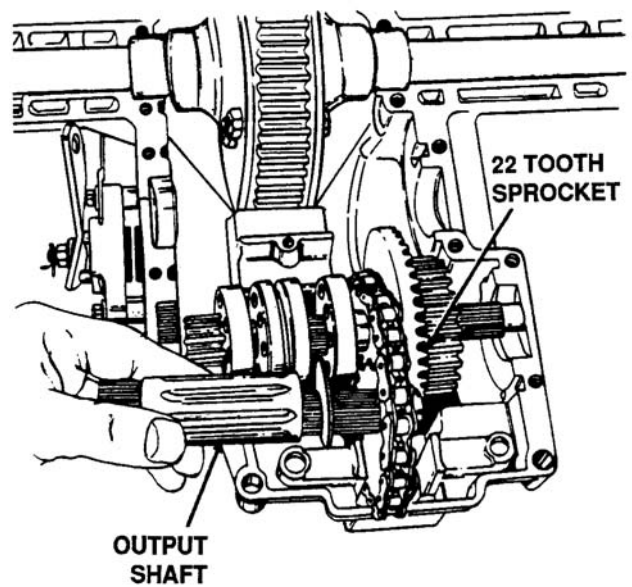

Figure 5-44. Removal of Output Shaft
20. Remove the output shaft from the 22 tooth sprocket. Note there is an additional shim washer which must be removed. See Figure 5-44.